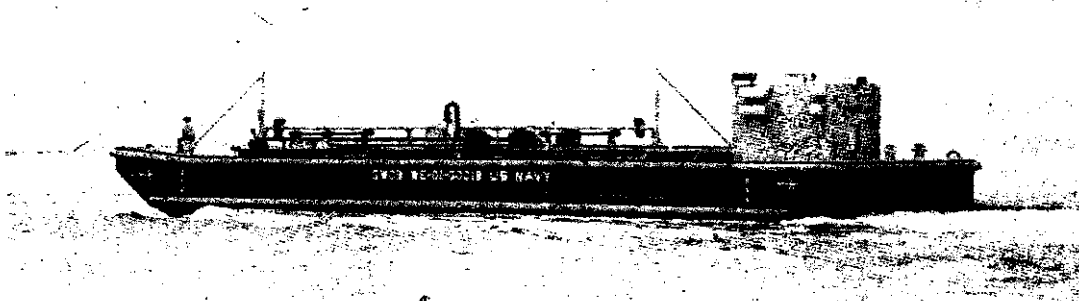

FIGURE 1-1
1.2 PURPOSE OF THE SWOB. A key element in the Navy's effort to eliminate overboard discharge of wastes is the Ships Waste Offloading Barge, or SWOB, shown in Figure 1-1. There are two types of SWOBs now servicing Navy activities, OIL SWOBs and SEWAGE SWOBs. The primary purpose of the OIL SWOB is to collect oily waste from U. S. Navy ships in port or at anchor and transfer the waste to a shoreside terminal for treatment, reclamation or disposal. In this way, ships entering or staying in port may dispose of their oily wastes on station, without discharging overboard. At no time should oily waste be placed into a sewage barge or vice-versa.